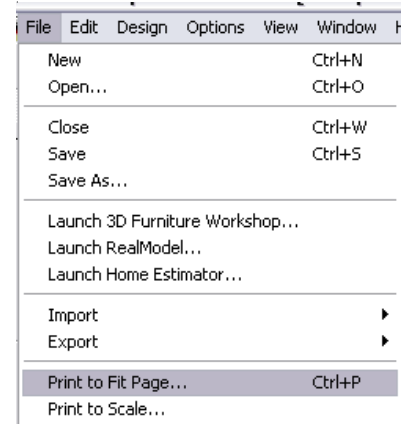

Figure 33
1. Open the file menu and select **“print to fit page”** as shown in **figure 33**.